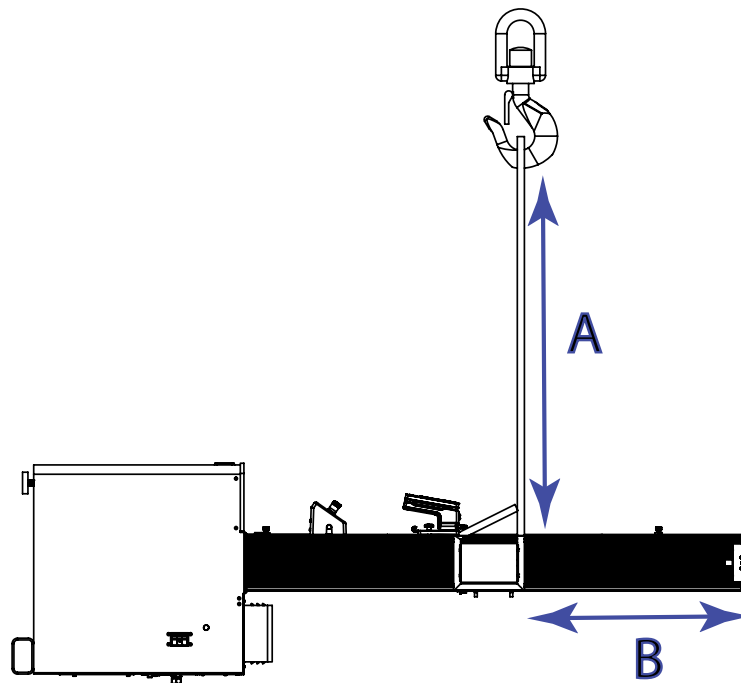

Figure 24. Attach the lifting slings
2. Attach the two lifting slings to the crosshead and attach them to the crane hook as shown in Figure 24 on page 81. If you use chains in lieu of slings, wrap the crosshead and top plate with protective material to protect from scratching and marring.
The length of the sling (A in Figure 24 on page 81) must be longer than the distance required to clear the top plate (B in Figure 24 on page 81). This ensures that the hook will not damage the frame during lifting.